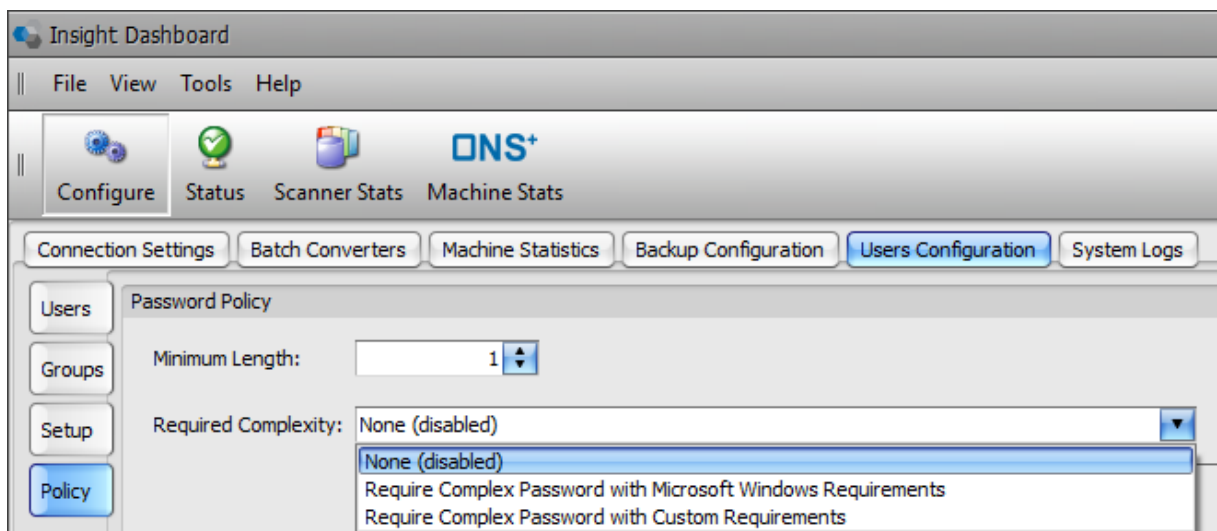

Figure 2-12: Required Complexity drop-down list
3. Use the **Required Complexity** drop-down to select a required level of complexity for the characters used in the password (Figure 2-12).